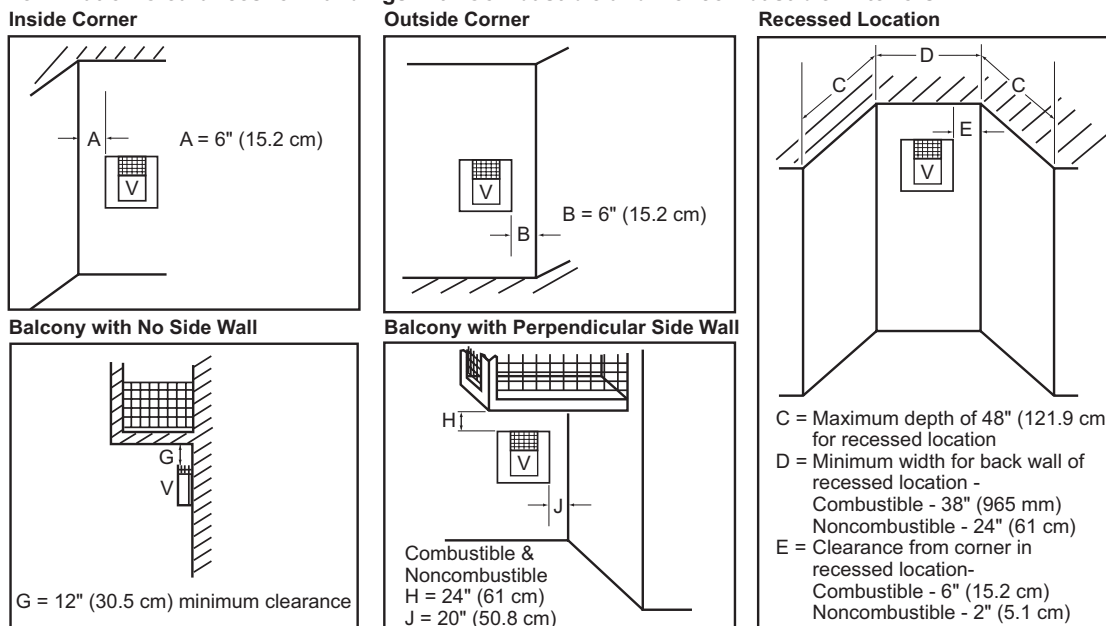

Figure 7 - Minimum Clearances for Termination Cap
- When locating termination cap, it is important to observe the minimum clearances shown in **Figure 7, Page 11**.
Horizontal vent systems terminate through an outside wall. Building Codes limit or prohibit terminating in specific areas (*Figure 7, Page 11*).